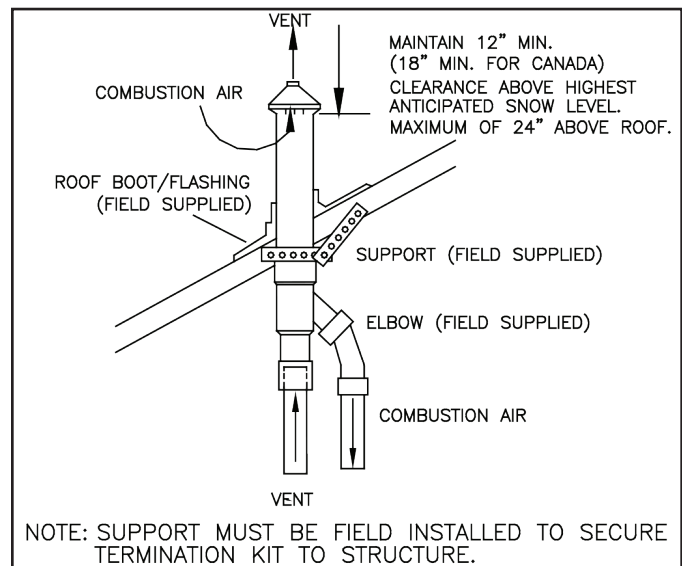

Figure 4 - Roof Installation
5. Secure assembly to roof structure as shown in Fig. 4 using field supplied metal strapping or equivalent support material.
7. Cement air inlet and exhaust vent pipes to concentric vent termination assembly. See Fig. 4 for proper pipe attachment.